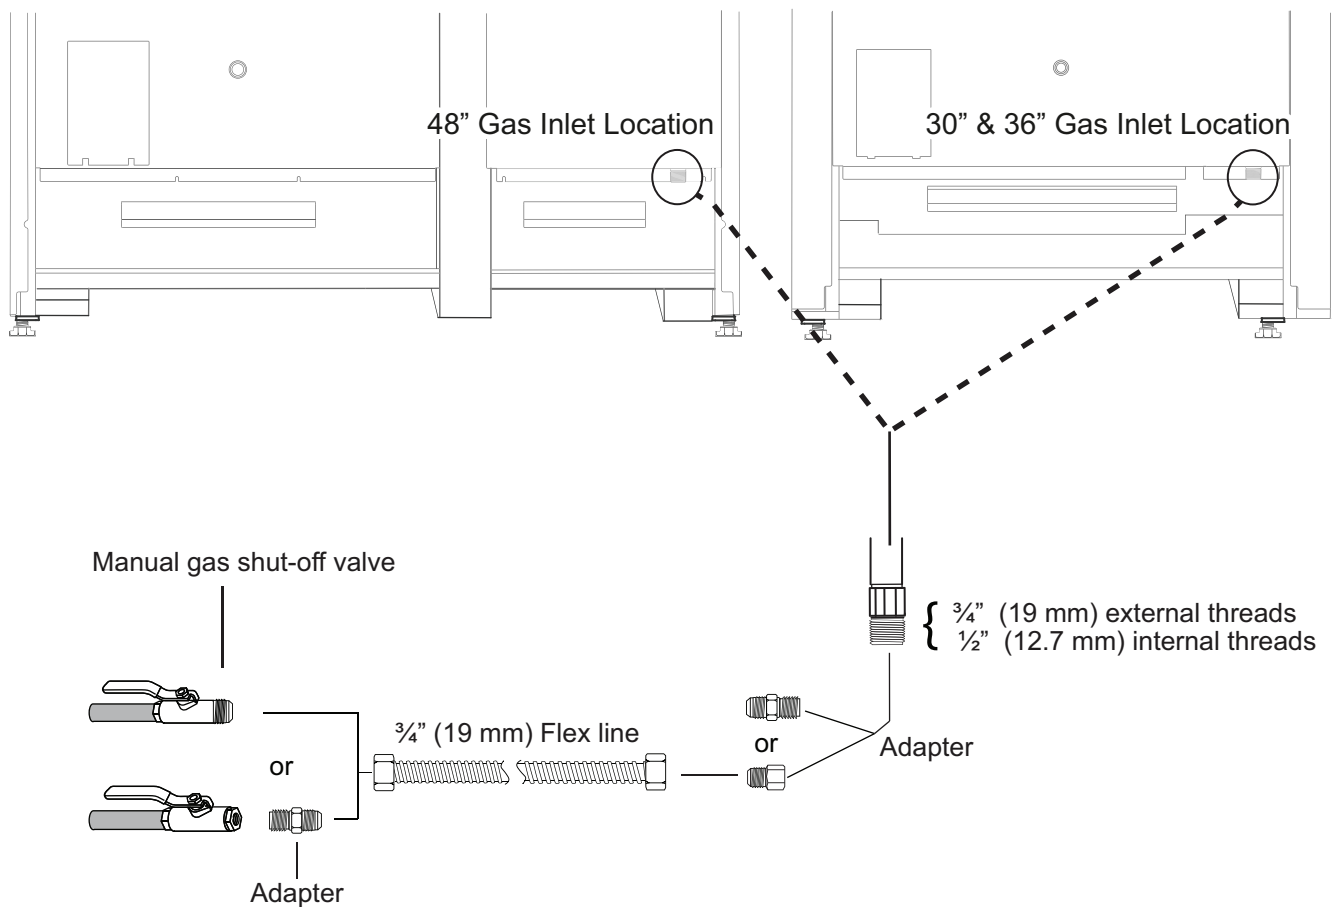

Figure 9: Gas Supply Connection
2. Use a 3/4" (19 mm) flex line to connect between the gas supply and the appliance gas inlet. The gas supply line connection is located at the lower right portion of all range models (see *Figure 9*). The appliance gas inlet connection is 1/2" (12.7 mm) NPT.